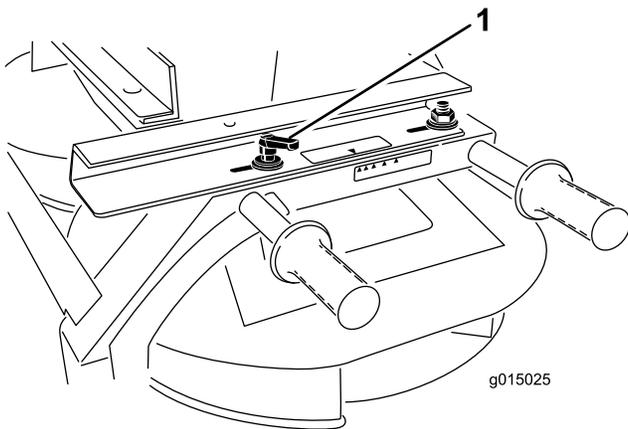

Figure 44
1. Loosen the handle on each side of the twin spinner (Figure 44).